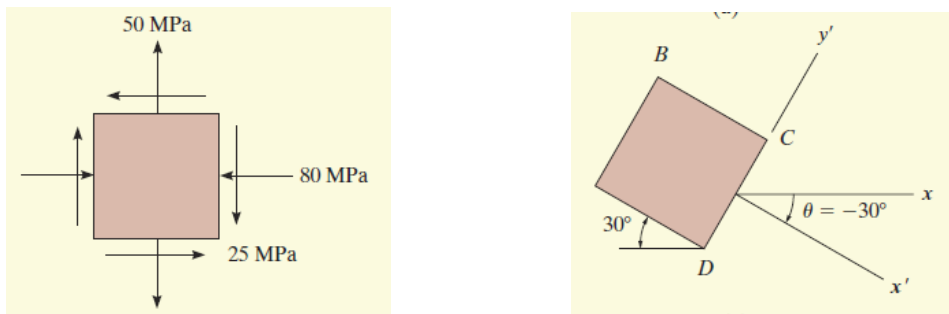
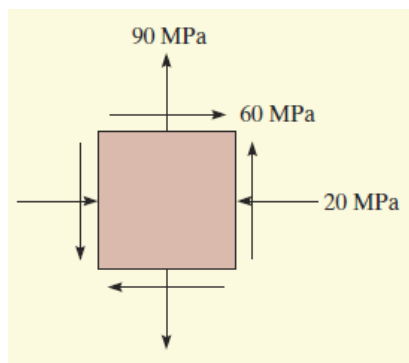

Fig. 1
Fig. 2
1. The state of plane stress at a point is represented by the element shown in Fig. 1. Determine the state of stress at the point on another element oriented  $30^\circ$  clockwise from the position shown.  $[-25.8, -68.8$  and  $-4.15$  MPa]
2. The state of plane stress at a failure point on the shaft is shown on the element in Fig. 2. Represent this stress state in terms of the principal stresses. Also, represent this stress state in terms of the maximum in-plane shear stress and associated average normal stress.  $[116, -46.4$  MPa,  $66.3^\circ$  and  $81.4$  MPa,  $35$  MPa and  $21.3^\circ]$
3. Recalculate the stresses in Fig. 1 and Fig. 2 by using Mohr's Circle Method.